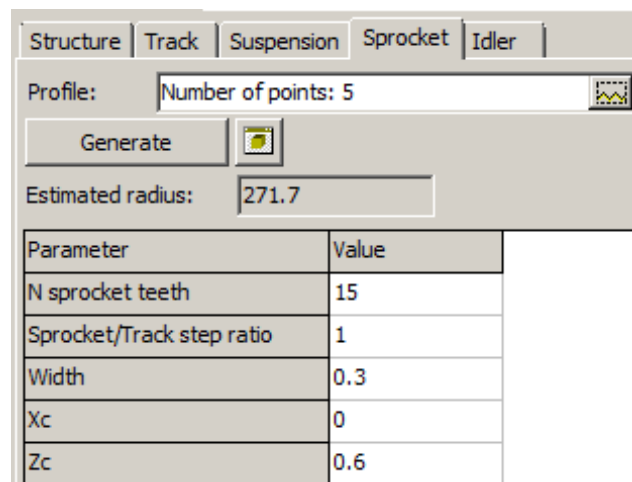

Figure 1.11. Geometric parameters of sprocket
Open the **Parameters | Sprocket** tab, Figure 1.11.
10. Set number of teeth, ratio and geometric parameter: width of the wheel, the vertical and longitudinal coordinates of the wheel center, Figure 1.11.